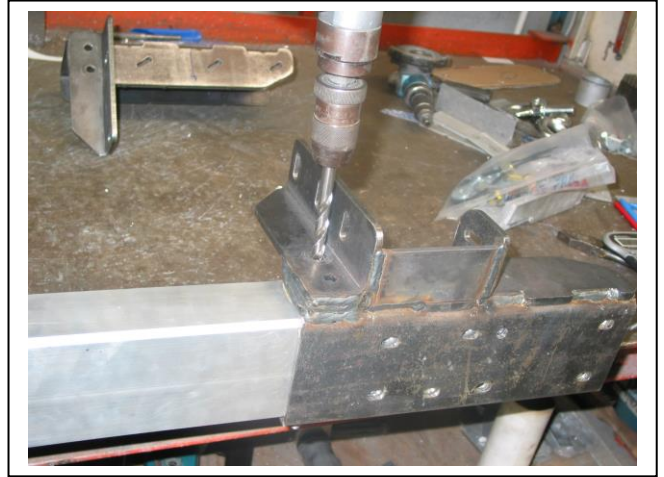

Figure 2
9. Slide steel mounting brackets (supplied) over alloy cross member and align all holes in steel mounting brackets to centre of holes in alloy cross member. Mark and drill 10mm holes both sides as per **figure 2**. **NOTE:** Holes drilled on underside of cross member, not on top.